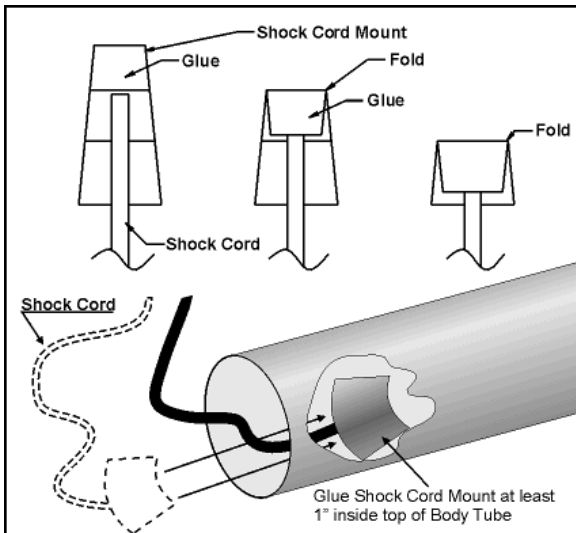

Figure 11
11. Cut out the **Shock Cord Mount** and assemble as shown in **Figure 11**. Glue this inside the top of the Body Tube at least 1.0" inside the tube.